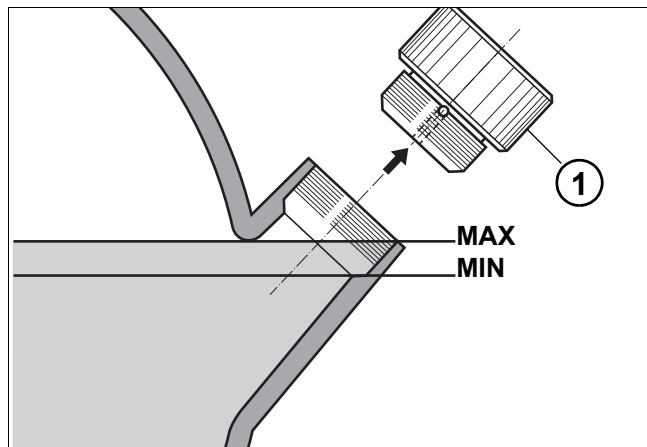

Fig. 7-2
- Fill in oil up to the maximum level in the filling pipe at the separator tank and put on the screwed plug **1** tightly by hand onto the filling pipe (see Fig. 7-2).